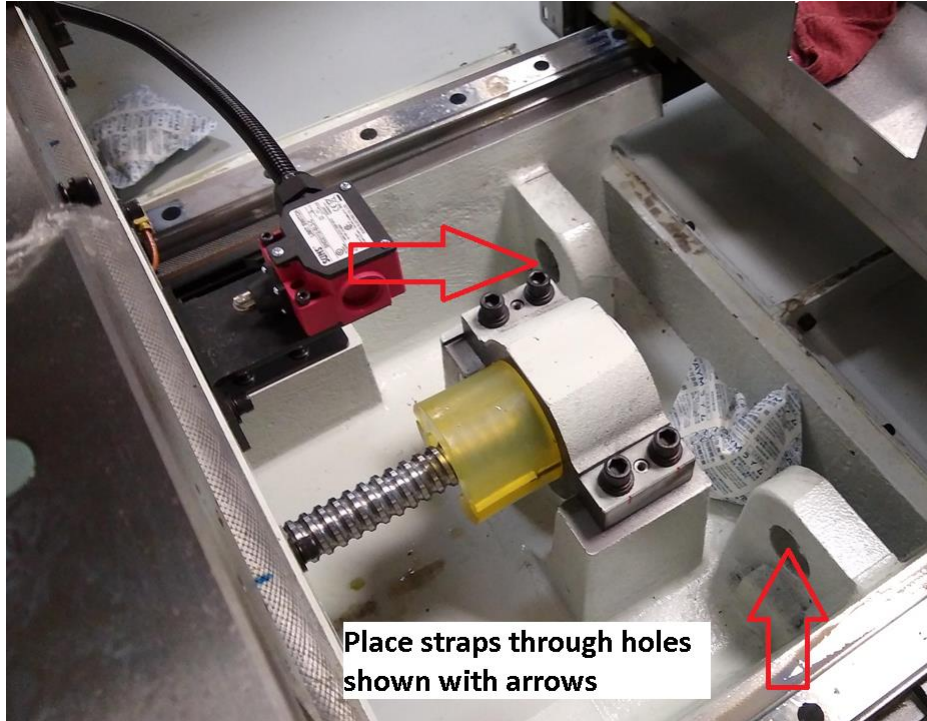

Figure 7 – Lifting Machine with Straps
- To move the machine while on the pallet, a 15000 lb. forklift with a 24" load center & 6' fork extensions is required. Depending on the load center or rating of the forklift, a larger forklift may be required. The center of gravity (CG) of the machine while on the pallet is ~48" from the edge of the pallet.
- The TMC may be lifted via 2 eye bolts on top of the column and 2 straps at the front of the Y axis as shown in figures 7 and 8.